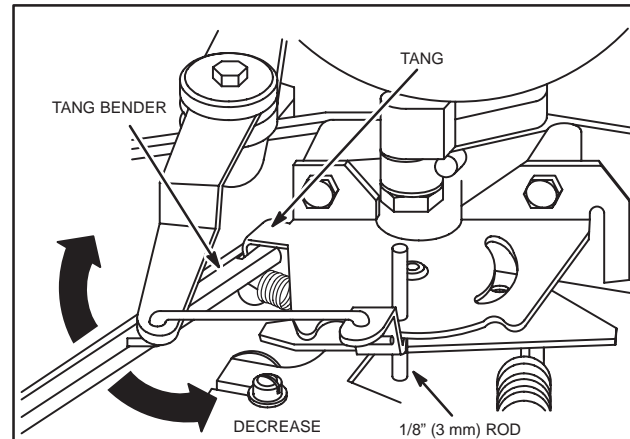

Fig. 34 – Adjust Governed Idle
- Move remote throttle control lever until a 1/8" (3 mm) rod can be inserted through two (2) holes in governor control plate, Fig. 34.